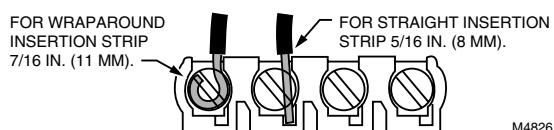

Fig. 9. Proper wiring technique.
1. Loosen the terminal screws on the back of the thermostat and connect the system wires. See Fig. 9.